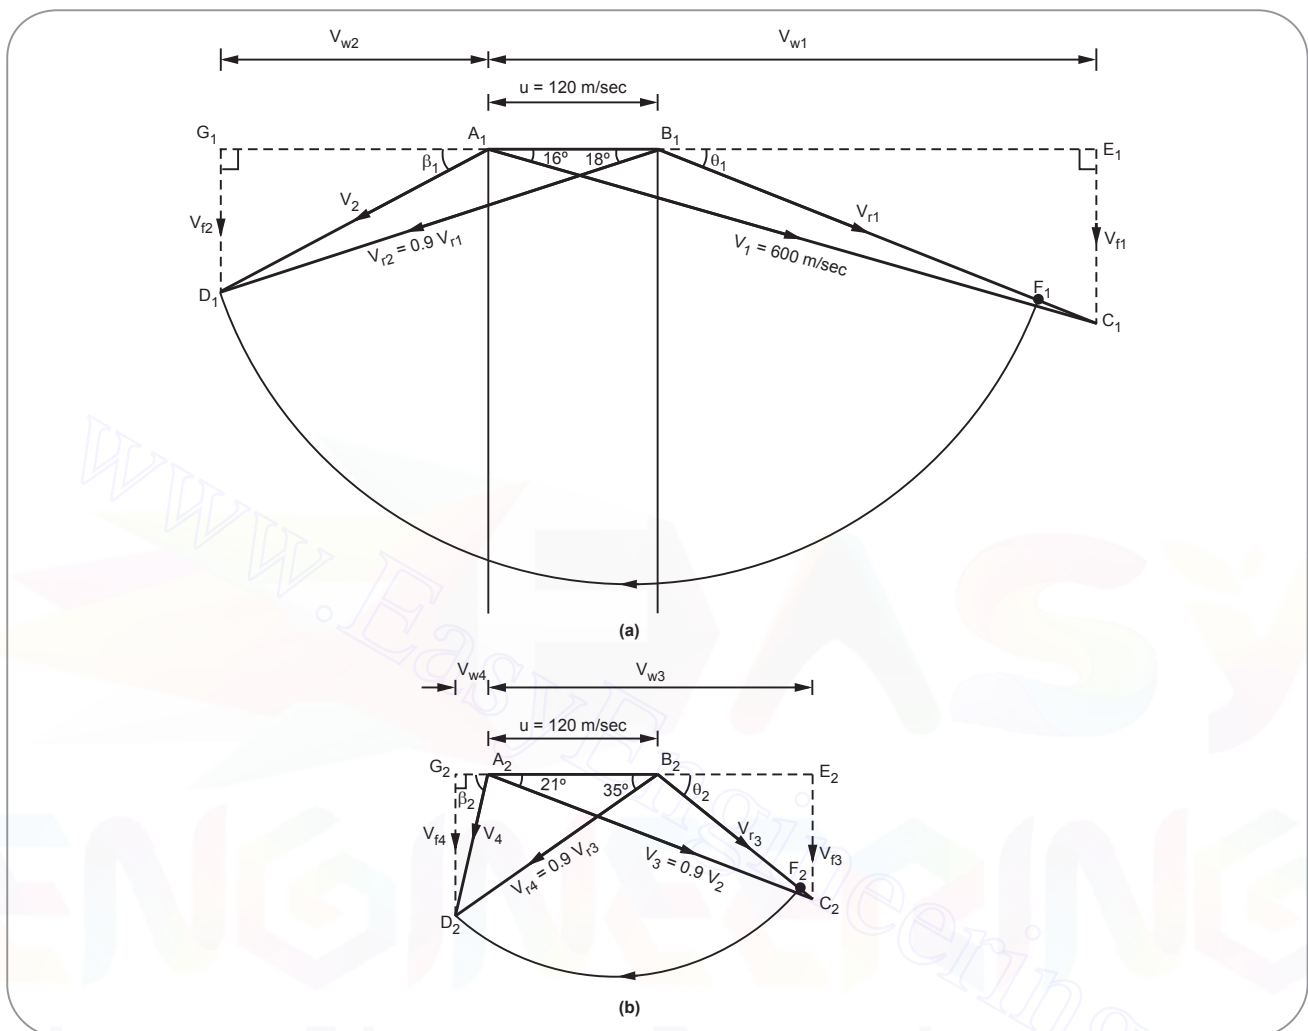

Fig. 3.30
- Consider a suitable scale as 1cm = 50 m/sec and draw velocity triangles as shown in Fig 3.30 (a).
- Consider a suitable scale as 1cm = 50 m/sec and draw velocity triangles as shown in Fig 3.30 (b).